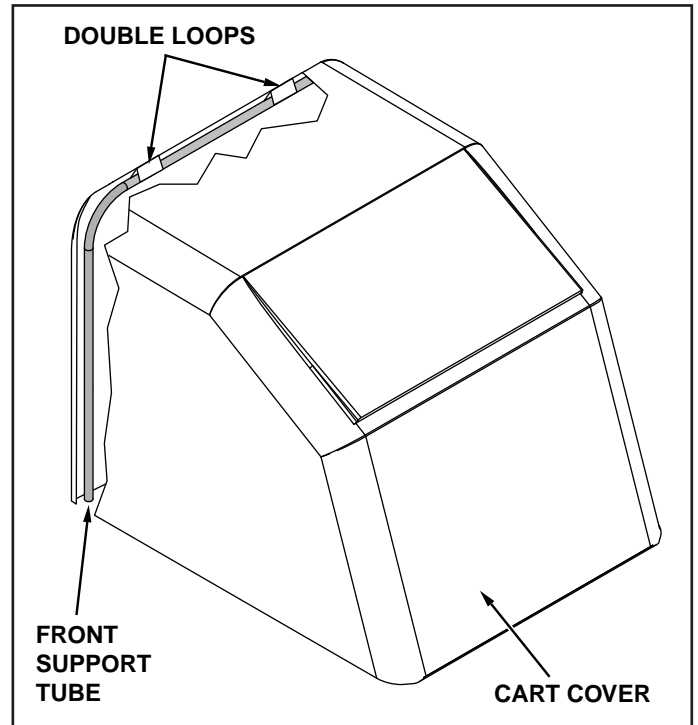

FIGURE 13
- Slide the front support tube through the double loops at the front of the cart cover. See figure 13.